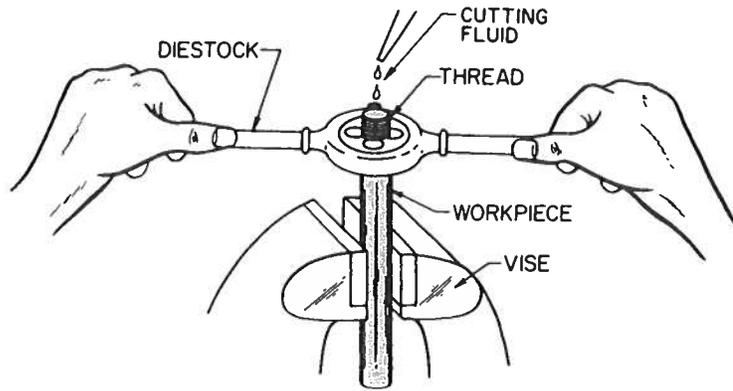

Fig. 20-10 The hands may be moved to the ends of the diestock after cutting several threads.
7. Shift the position of your hands to the ends of the diestock, add a little cutting fluid, and continue to cut the thread (Fig. 20-10). Back up the die a half-turn every two or three threads to break and clean away the chips. This helps keep chips from clogging the die and roughening up the thread.